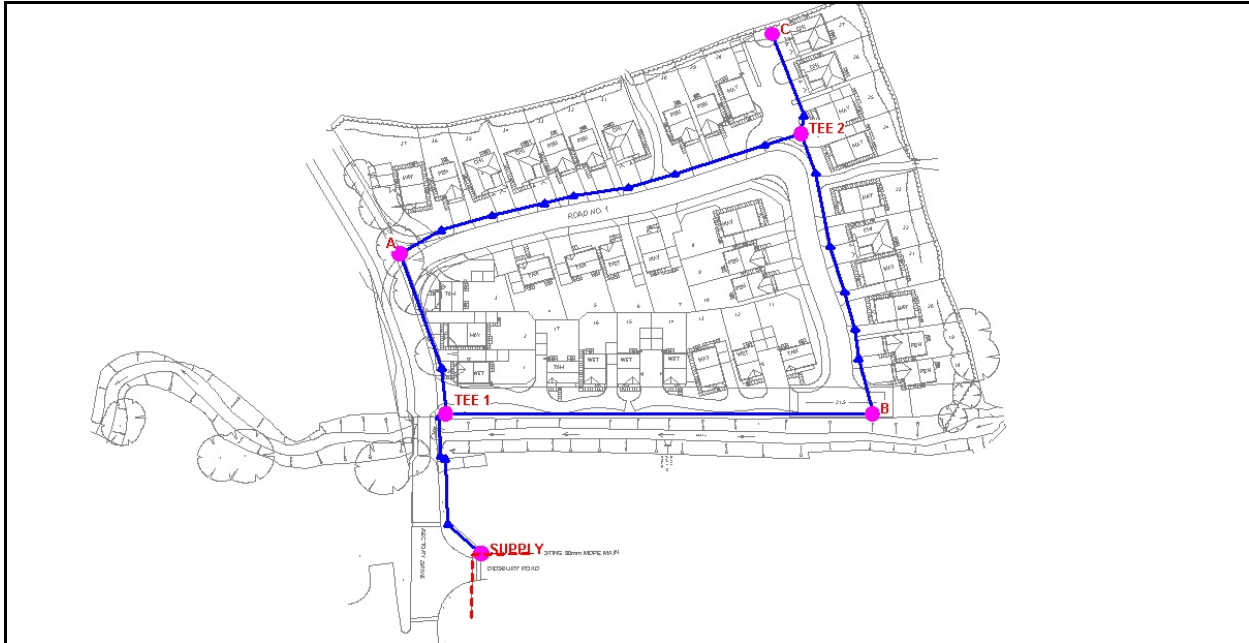

Figure 1
The main lines will be entered by tracing over a background image. In general, the final main line configuration should be similar to Figure 1. In Figure 1, the dots (solid circles) reflect node locations, and the triangle symbols reflect vertex locations (pipe deflection points).
- Enter the first pipe segment from the supply point (**Node SUPPLY** on Figure 1) to the location of the first intersection (**Node TEE 1** on Figure 1) using a polyline type pipe. Select the *Add Polyline Pipe* icon from the *Graphic Construction Commands* toolbar.